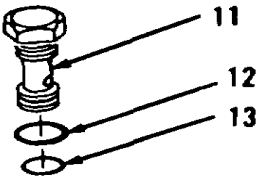

Figure 10-120.
- 9. Remove valve (14), shim(s) (15), spring (16) and washers (17). Tie shim(s) (15) together and tag for identification.
- 10. Remove and discard preformed packings (12 and 13) from plug (11, Figure 10-120).
- 2. Install new preformed packings (13 and 12) on plug (11, Figure 10-120).